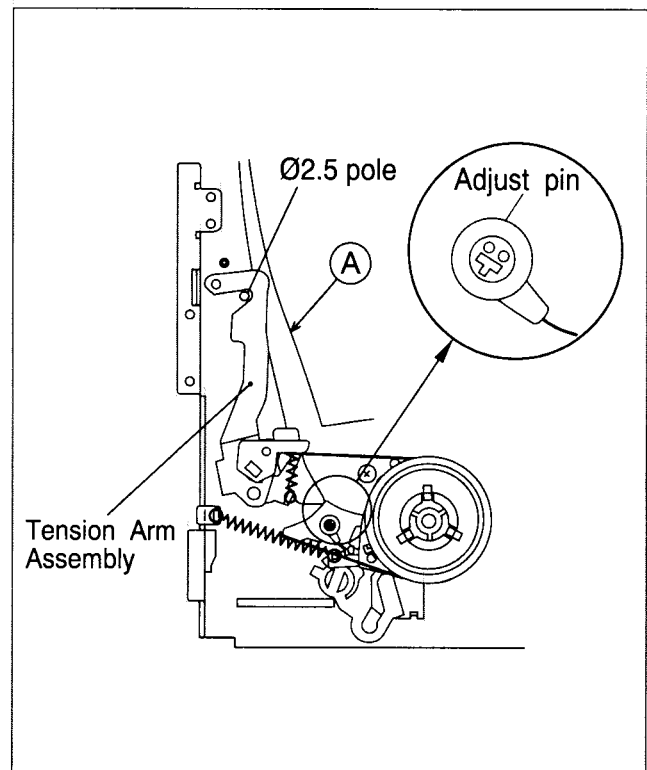

Fig. 2-7-8
- 2) While in the Play mode, turn the adjustment pin with a straight-slot screwdriver while taking care not to touch the 2.5 mm dia. pole. (See Fig.2-7-8).